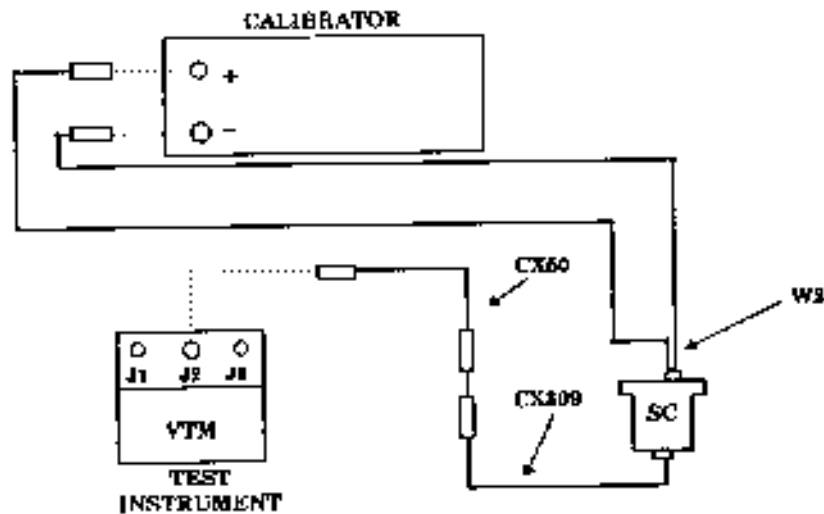

Figure 10. Dc and ac current - equipment setup.
- (1) Connect equipment as shown in figure 10.
- (2) Press and release **STEP** key on SC. SC will display: